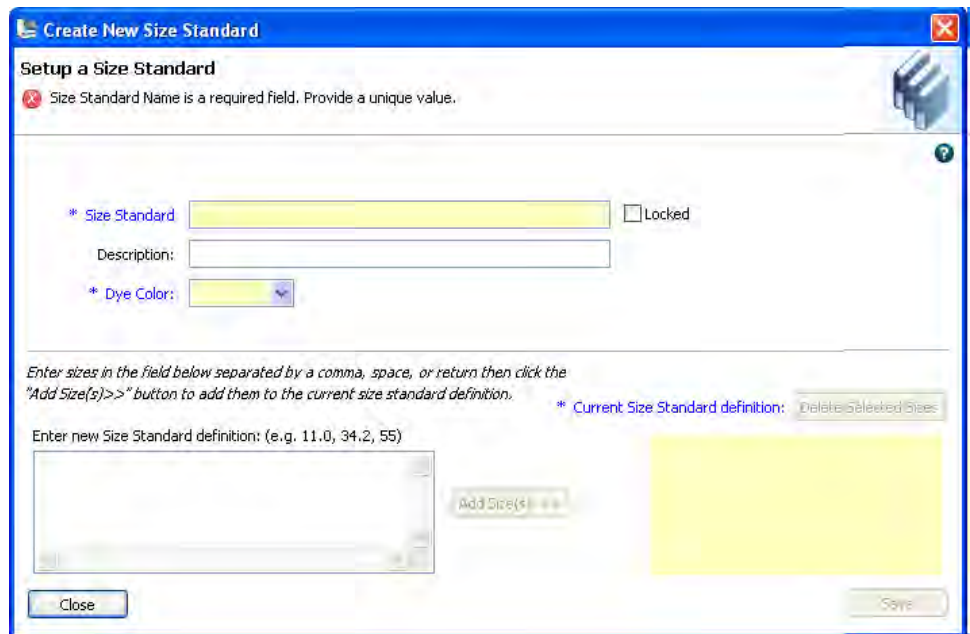

Figure 20 Create New Size Standard
3. In the Create New Size Standard dialog box (Figure 20), enter a size standard name.